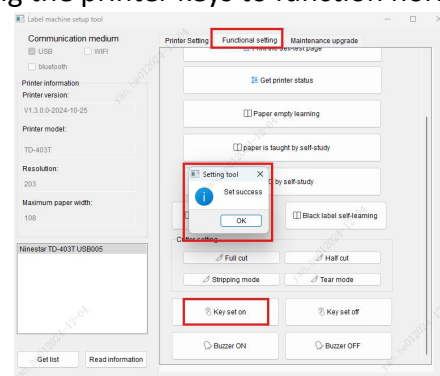

Fig.57
(11)Key set on:Select "Key Set on" and a "Set success" prompt box will appear (shown in Fig.57), allowing the printer keys to function normally.